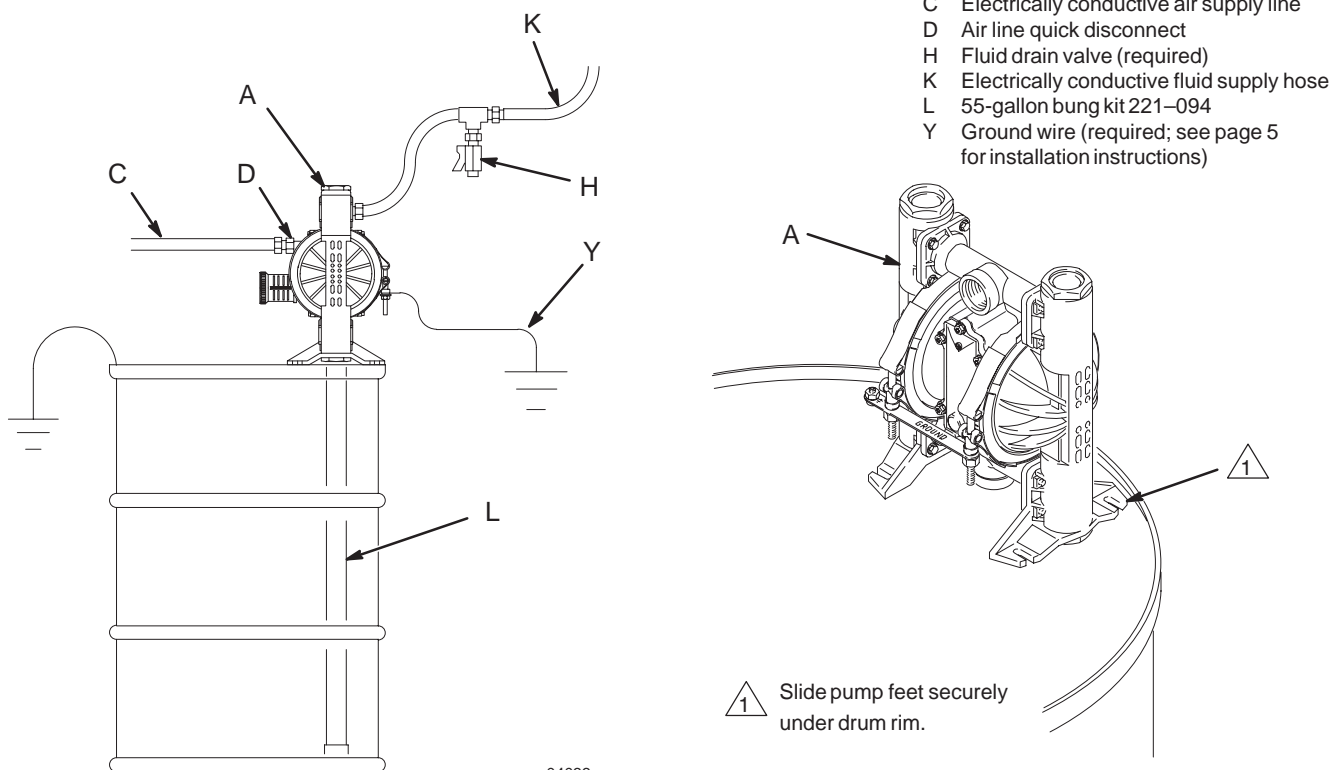

Fig. 4
- When installed on a drum (see Fig. 4), slide the pump's feet securely under the rim of the drum.